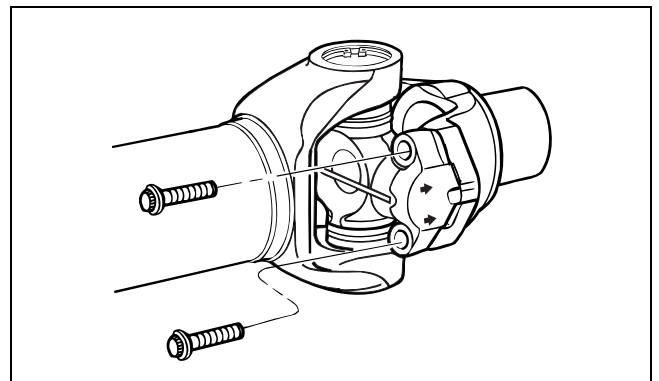

Figure 4.2
3. Remove the bolts. Figure 4.2.